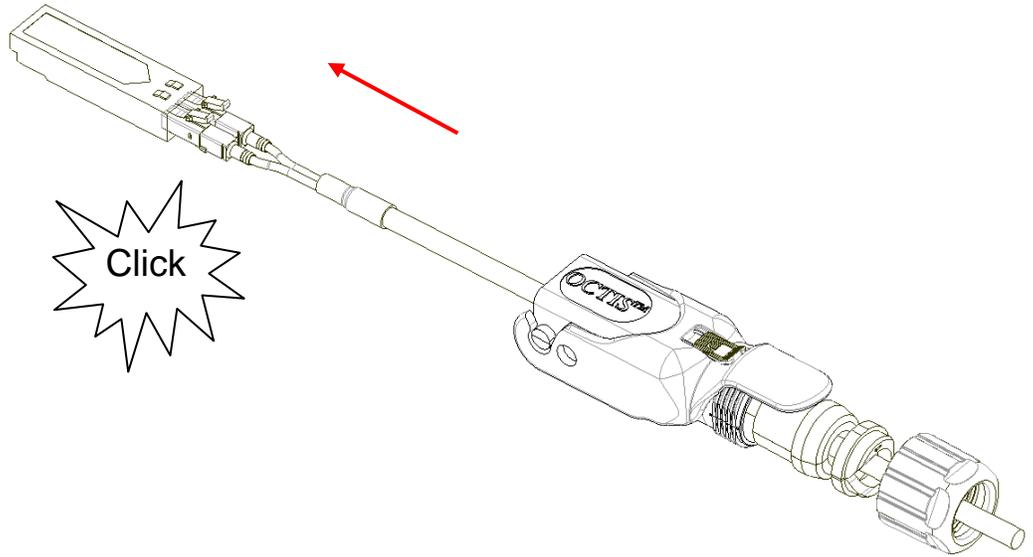

Figure 8
3. Fix the LC Duplex cable into the transceiver (Fig 8) .Can hear a click sound